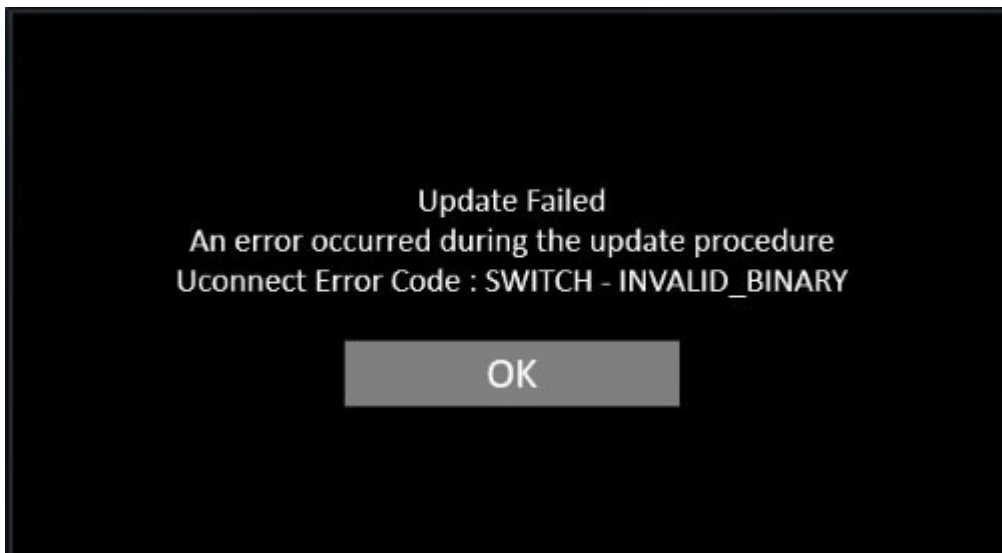

Fig. 5
16. Sometimes the radio will display an error pop up “ SWITCH - INVALID_BINARY“ after successful radio update. Please ignore this error message and press “OK” to continue (Fig. 5) .